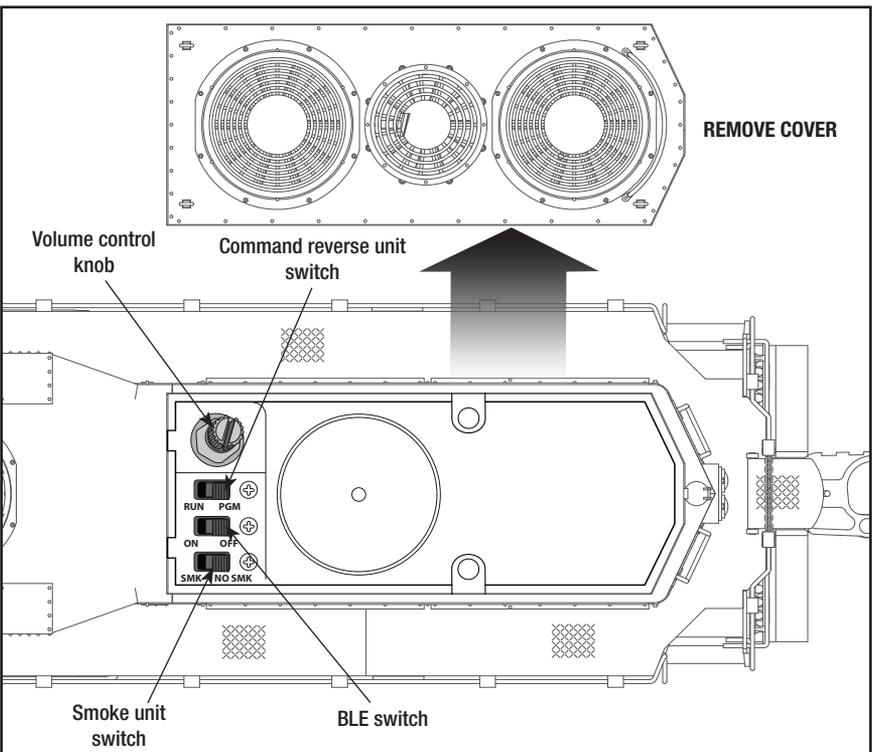

Figure 4. Locomotive switch locations
Use the **HORN** and **BELL** buttons on your transformer to activate those features. Adjust the volume using the volume control knob. Refer to Figure 4 on page 8 for the location of this control. For more information, please refer to the Conventional transformer operations section of this manual.
If you prefer to operate your locomotive without smoke, locate the smoke unit switch and slide it to the NO SMK position. Refer to Figure 4 on page 8 for the location of the switch.
The functions of your locomotive's switches are outlined below. Refer to Figure 4 for the location of the switches. **The instructions below are specific to this particular locomotive; note that available features (and switches) may differ from other locomotives and locomotive sets.**
- 1. Slide the Command reverse unit switch on your locomotive to the PGM position. See Figure 4 on page 8.**